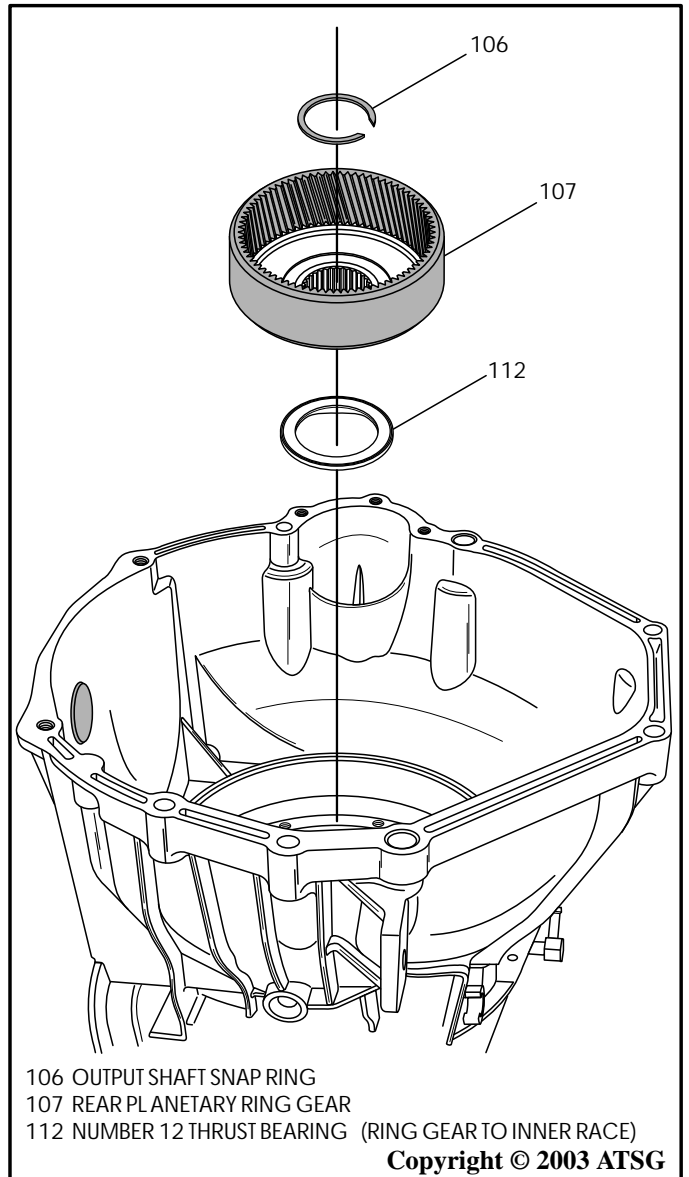

Figure 69
25. Remove snap ring, rear planetary ring gear and the number 12 thrust bearing (See Figure 69).